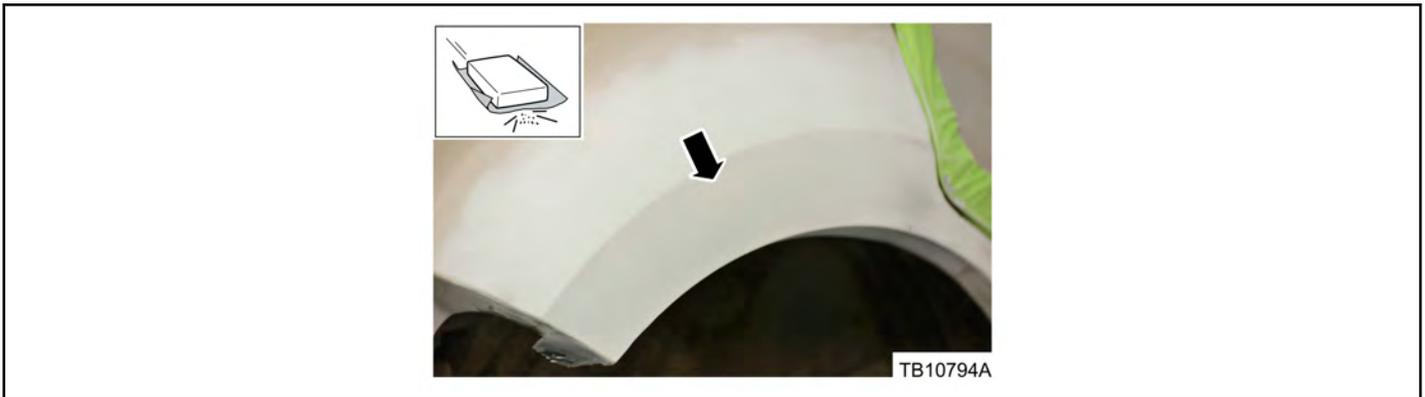

Figure 12 - Article 15-0157
- 34. Sand and shape as required for final finish. (Figure 12)